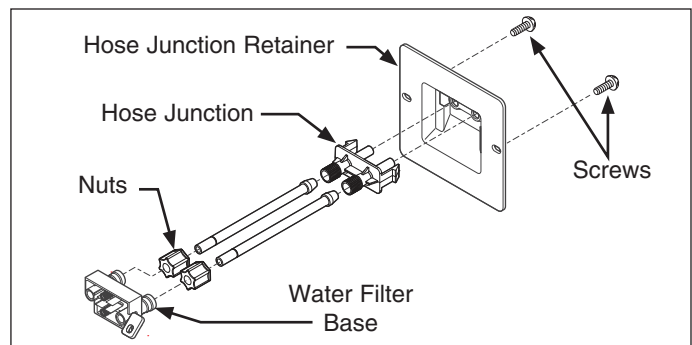

Figure 6-17. Light Fixture and Control Removal
7. The water lines are removed from the hose junction mounted to the rear wall by turning the nylon nuts counter clockwise and then pulling the water lines from the hose junction. (See Figure 6-17)
8. The hose junction may be removed by first disconnecting the water lines from the rear of the unit. Then, press in on the retaining latches while pushing the hose junction through the cabinet wall. (See Figure 6-17)
9. Remove the hose junction retainer by extracting the two screws from the rear of the unit, then pull the retainer from the unit. (See Figure 6-17)